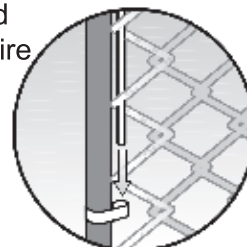

Figure 6
Once you have completely unrolled the chain link mesh around the entire kennel frame, install the remaining **TENSION ROD (H)** through the edge of the chain link and clip it to the rod clips on the gate frame. (figure 6)